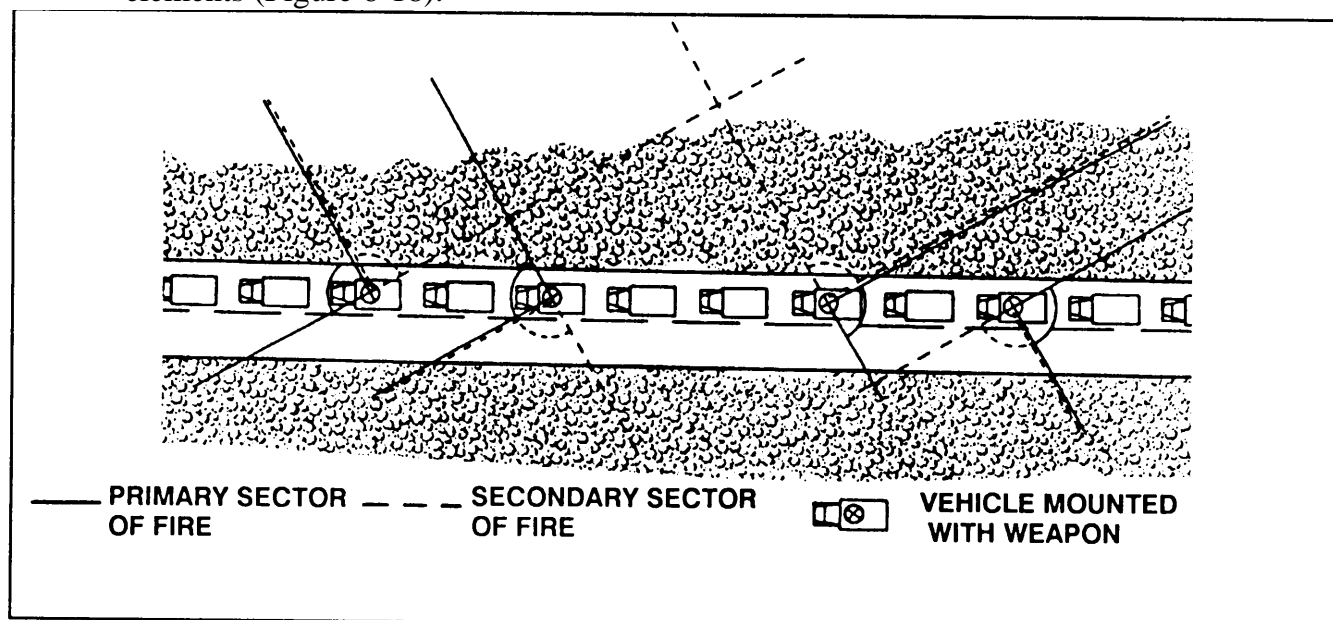

Figure 6-18. March column with four MGs (added).
- Machine guns used to defend march columns should be interspersed in the convoy, with emphasis on the lead and rear elements (Figure 6-18).